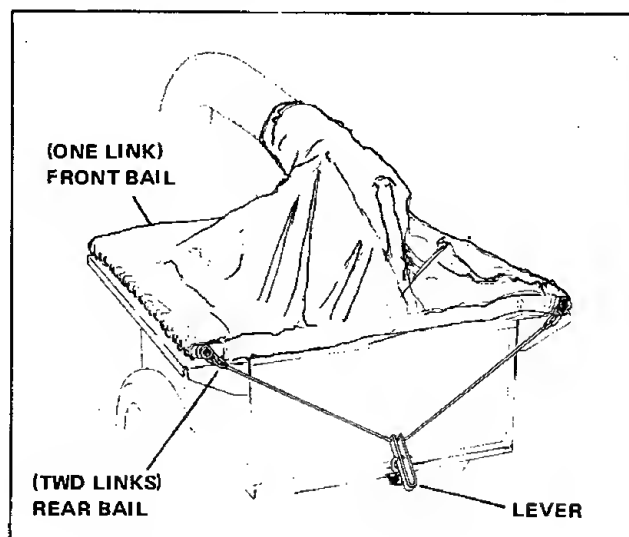

Figure 23. Assembling Cover Bails
7. Insert each bail through slotted hole in lever and center the lever on the bail (figure 23).
8. Attach one link to each end of the front bail and two links to each end of the rear bail (figure 23.)